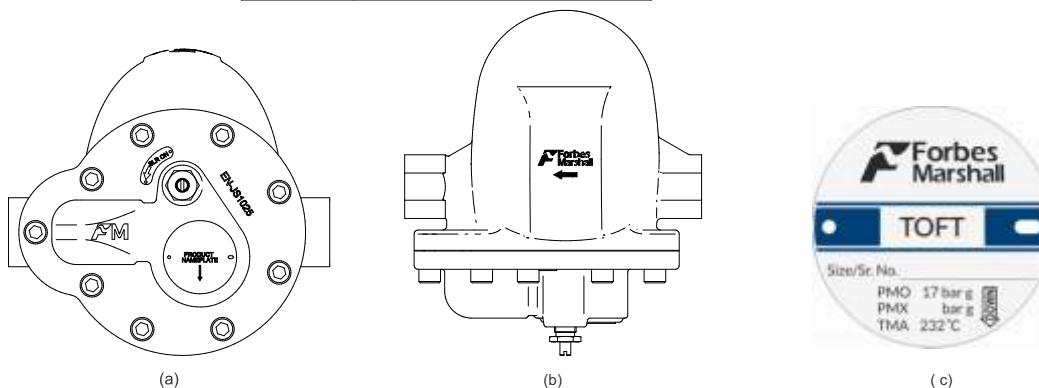

Fig 5 View of TOFT
4. The trap must be fitted with the arrow on the name-plate pointing downwards as shown in figure 5 (c).
5. The arrow on the casting should be in the direction of the flow figure 5 (b).